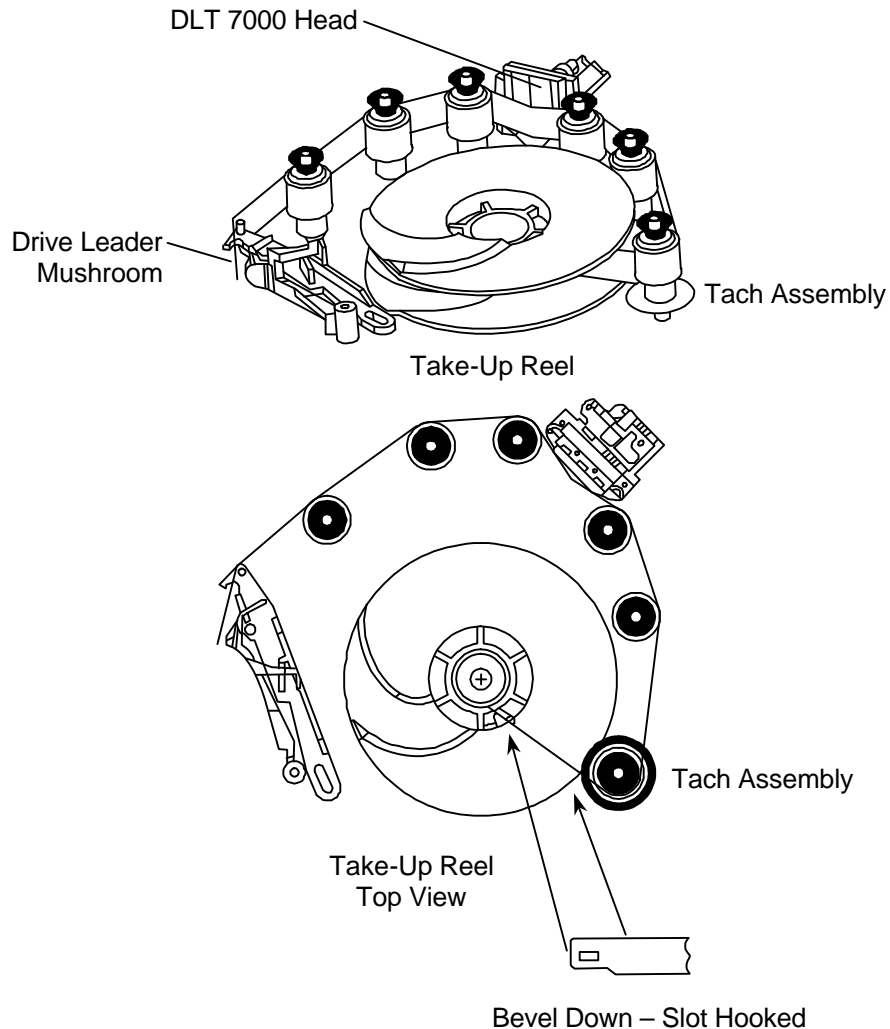

Figure 13 Drive Leader Attachment and Path
14. Very carefully slide the leader in front of the head positioning the leader so that it enters the tape path and passes around all six rollers. Refer to Figure 13. Each roller has a flange that holds the leader in alignment and the mushroom end of the leader will protrude into the rear of the drive receiver.